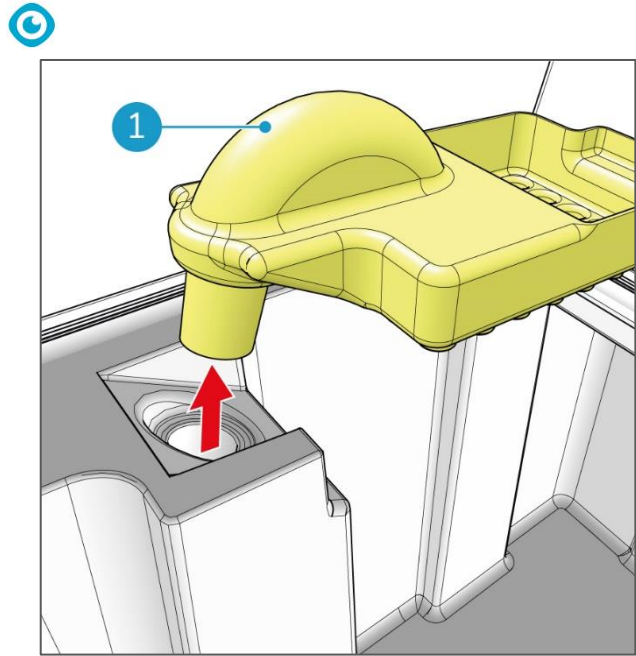

Figure 66
8. Remove the recovery water inlet (Figure 66, pos 1).